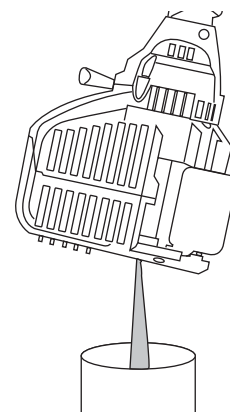

Fig. 22
3. Pour the oil out of the oil fill hole and into a container by tipping the unit to a vertical position (Fig. 22). Allow ample time for complete drainage.